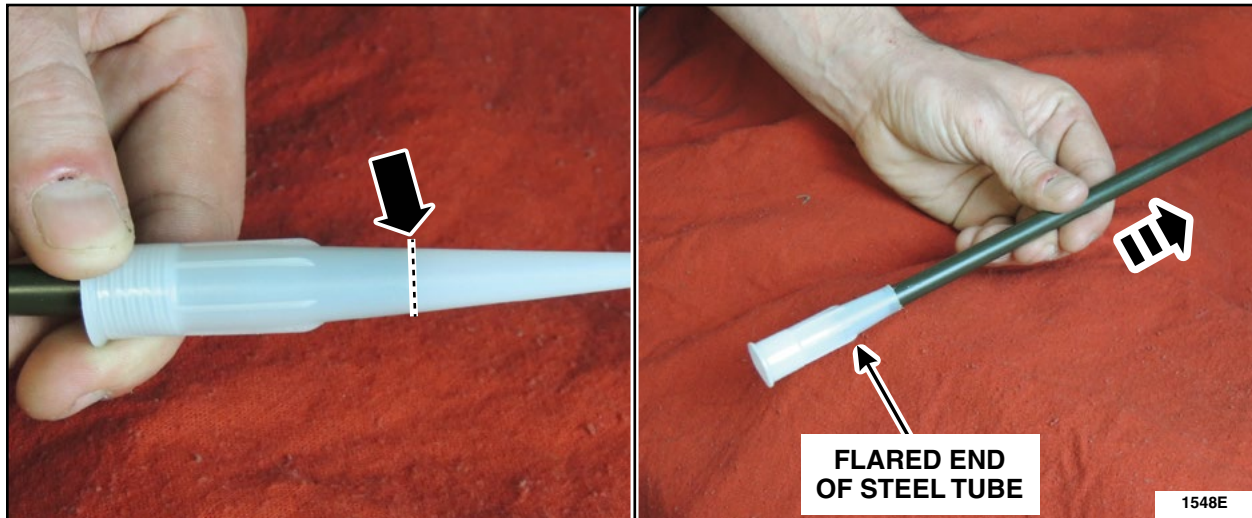

FIGURE 7
NOTE: Use Motorcraft urethane sealer TA-2-B and an application nozzle extension fabricated from 3/8" O.D. x 11" flared steel tubing to seal gaps in sheet metal. See Figure 7.
1. Attach the fabricated nozzle to a tube of Motorcraft TA-2-B or equivalent seam sealer. See Figure 7.